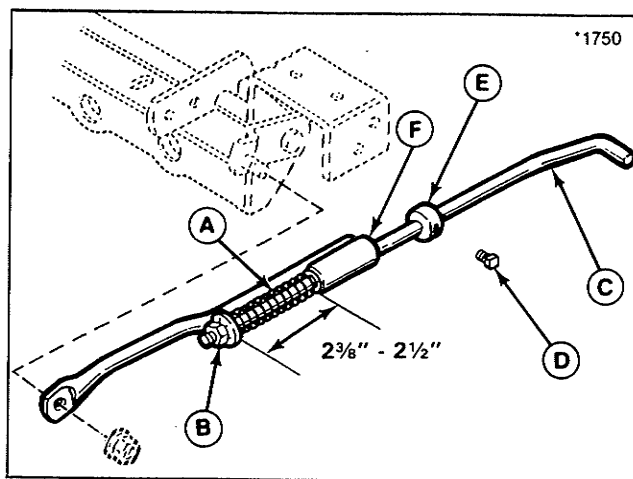

Figure 28. Brake Spring Adjustment
2. Inspect the brake spring (A, figure 28) under the left-hand side of tractor. Spring length should be between 2-3/8 and 2-1/2 inches. Refer to figure 28.
3. If adjustment is needed, loosen setscrew (D) so that collar (E) is free to move.
4. Adjust the spring length as necessary by turning nut (B) to compress or release spring. (Correct length: 2-3/8 to 2-1/2 inches.)